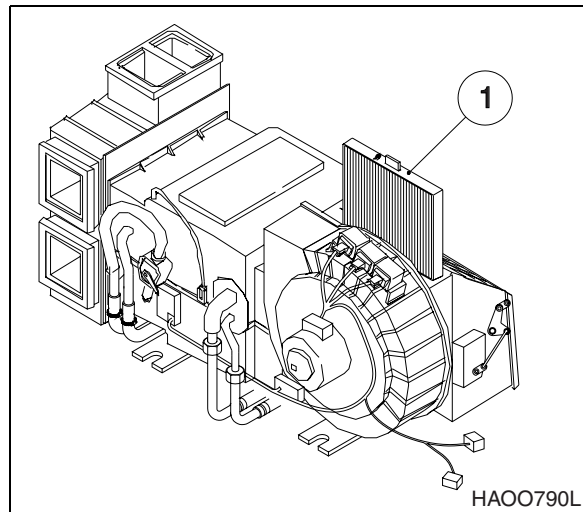

Figure 3
5. Remove filter (1, Figure 3) and inspect it for any damage.